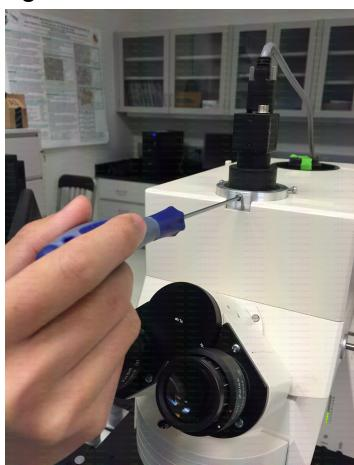

Figure 3
5. Loosen the screws around camera. (*Figure 3*)